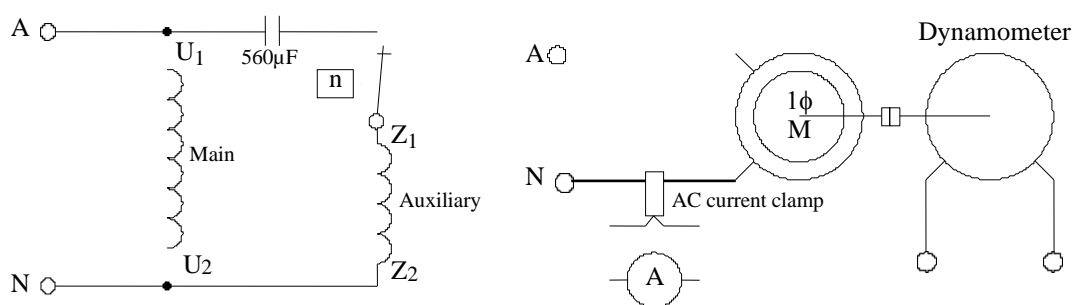

Figure 2
1. Connect the 24V capacitor start motor as shown in figure 2.